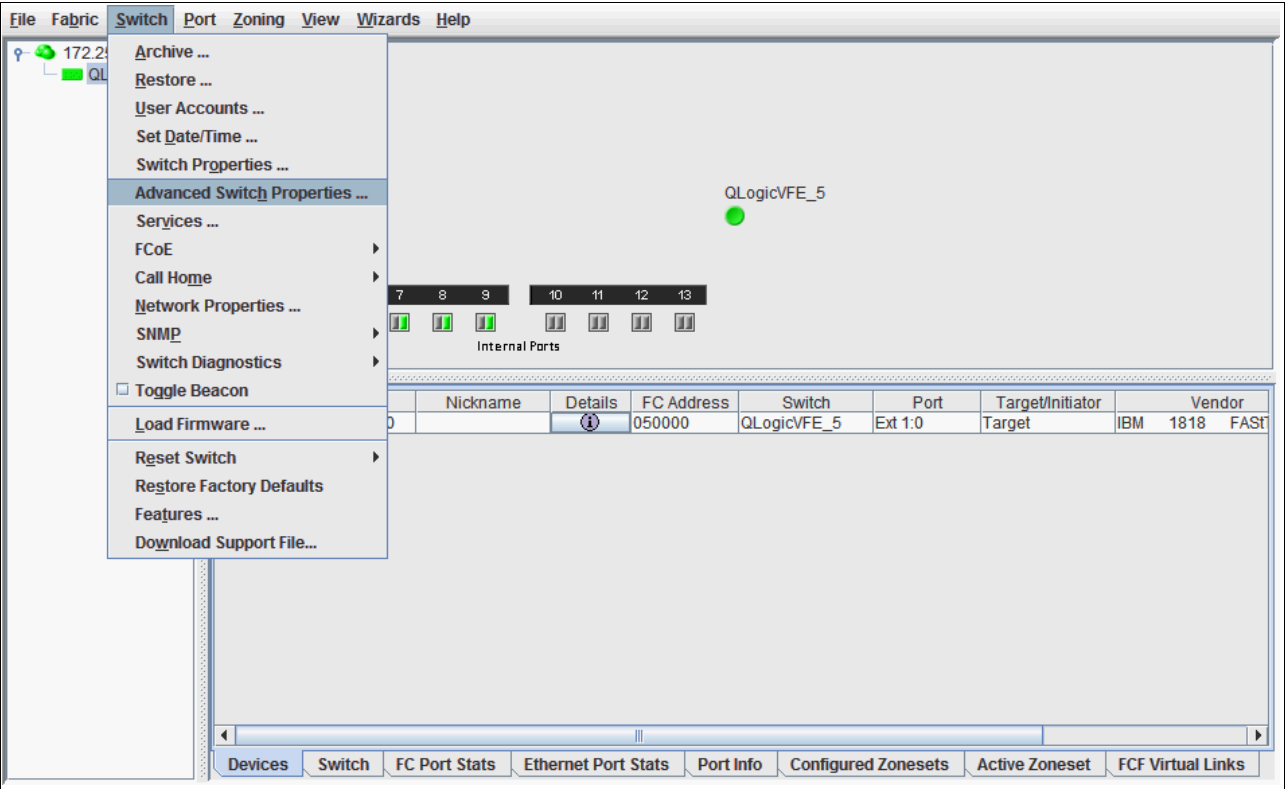

Figure 10-8 Virtual Fabric Extension Module GUI
1. In the main window of the Virtual Fabric Extension Module GUI (Figure 10-8), select **Switch** → **Advanced Switch Properties**.